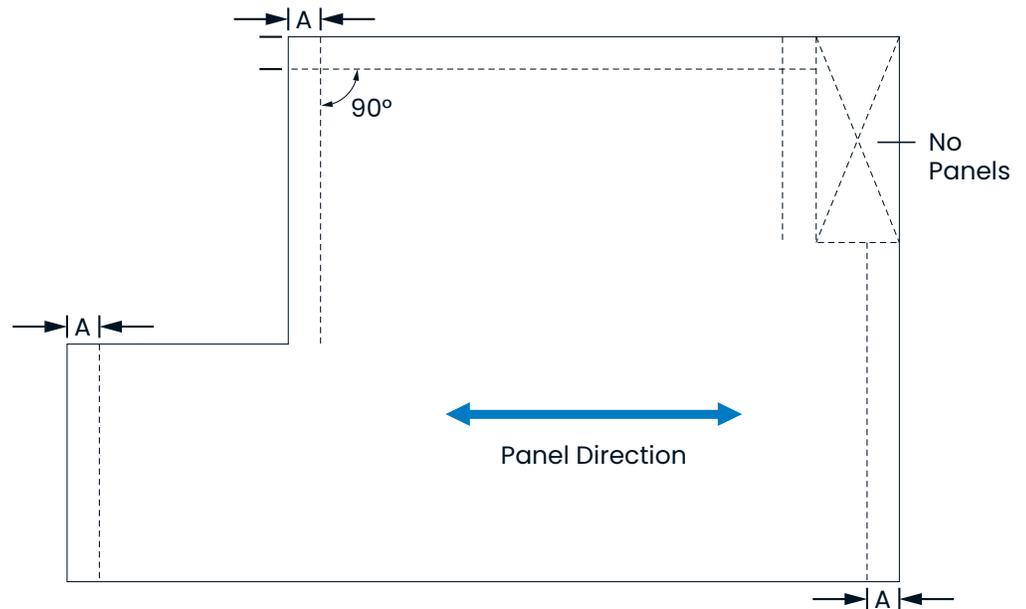

Figure 17: Use a chalk line to outline return panel locations.
3. Snap a chalk line to outline each of the return panel walls (see **Figure 17**).
3. To improve structural integrity, stagger the panels in each row so the seams are not lined up next to each other. If you have to cut the last panel in the first row, you can use the other cut piece to start the second row. As an alternative, you may cut a panel in half and begin the second row. Continue this staggered pattern throughout the installation (see **Figure 17**).